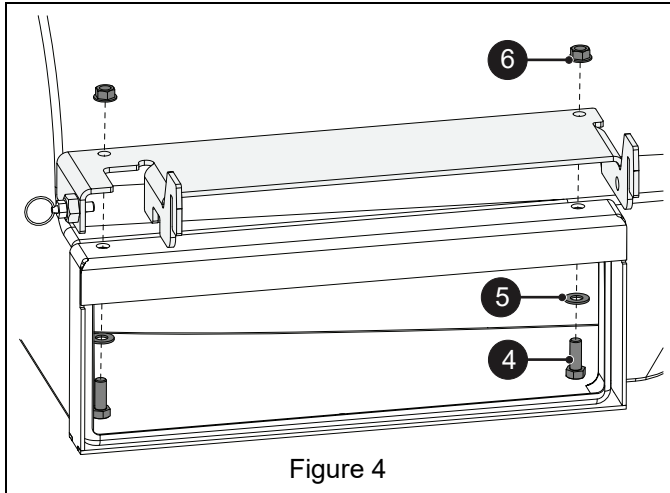

Figure 4
- Position mounting bracket assembly on top of frame and secure top edge with two 3/8" x 1" hex bolts (item 4), two 13/32" x 13/16" flat washers (item 5) and two 3/8" center locking flange nuts (item 6). See Figure 4.